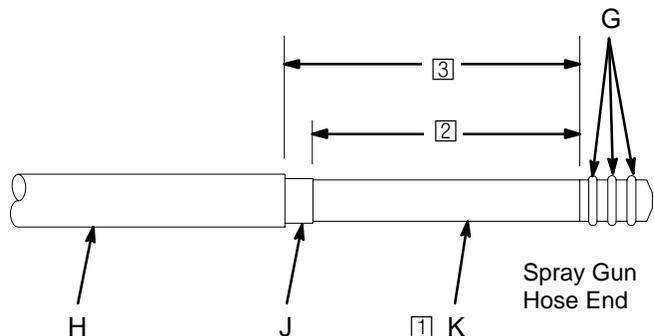

Fig. 4
1. For the fluid hose to seal properly and be held securely, the hose must be stripped and assembled to the dimensions shown in Fig. 4. Refer also to Fig. 29, page 42. A new Graco waterborne fluid hose comes fully assembled to the proper dimensions.
4. Apply a light coat of dielectric grease (supplied with the gun) to the o-rings (G) and to the entire length of the inner hose layer (K). See Fig. 4.
### KEY- Fig. 4